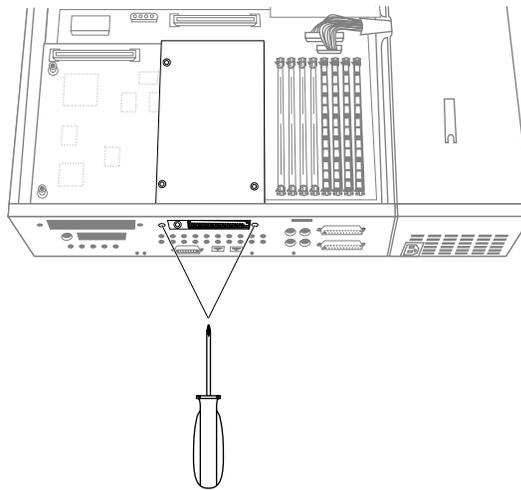

Figure 4-2 Removing the External Screws
- Using a Phillips screwdriver, remove the two screws from the board's external connector, as shown in Figure 4-2.